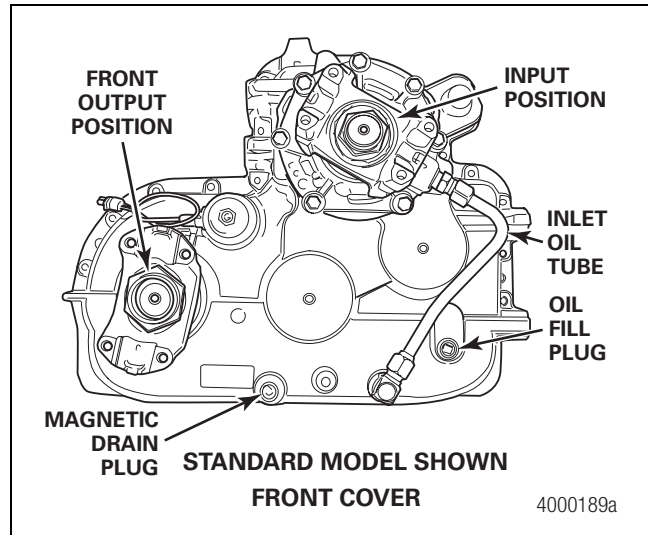

Figure 10.4
2. Clean the area around the fill plug. Remove the fill plug from the transfer case. Figure 10.4. The oil level must be even with the bottom of the fill plug hole.
2. Remove the magnetic drain plug from the bottom of the transfer case. Drain and discard the oil correctly. Clean the plug. Figure 10.4.